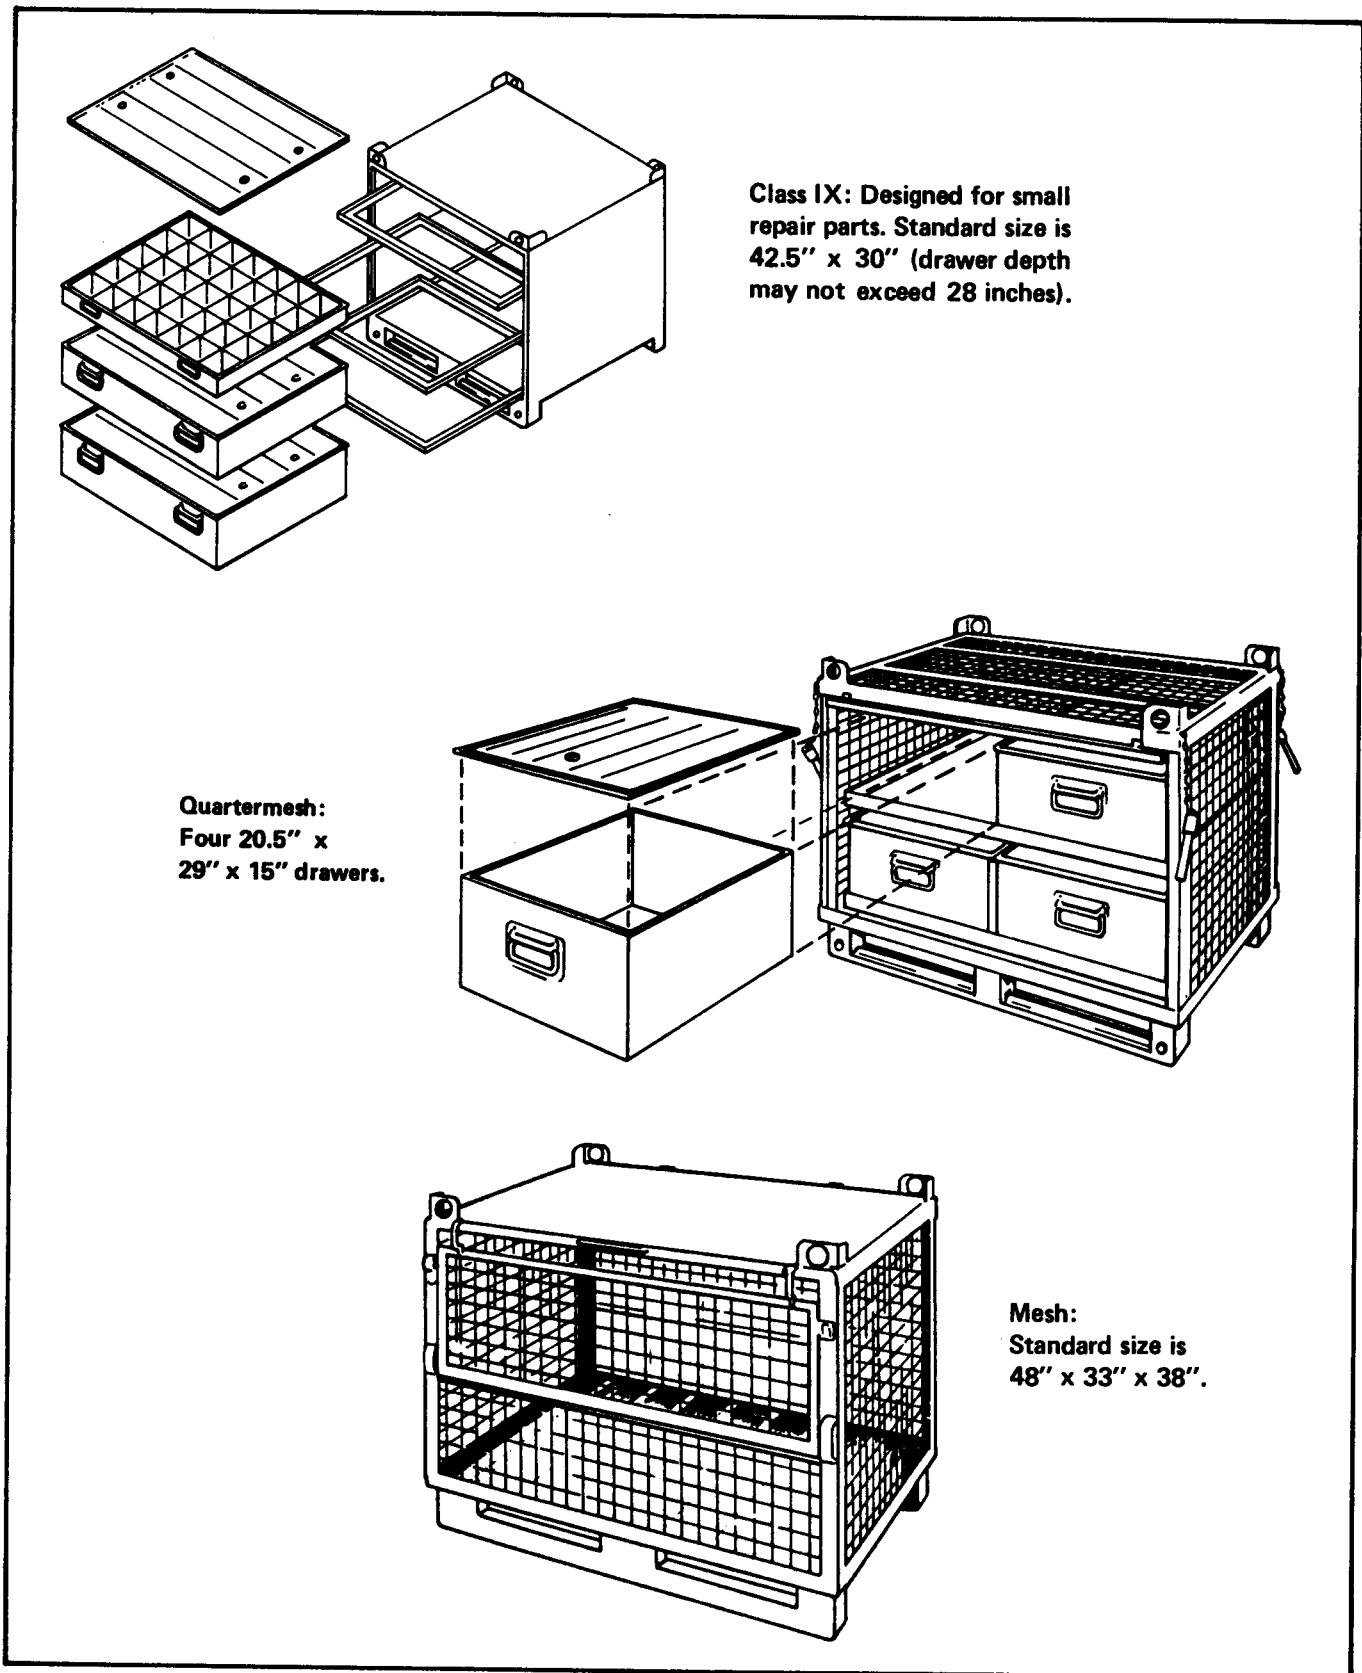

Figure 12-5. Types of FLEX pallets
- Select a storage aid that will make the best use of the M871 storage capacity. This example uses FLEX pallets which can be used for both bin and bulk storage. The standard FLEX pallet is 48 inches long, 33 inches wide, and 38 inches high. Figure 12-5 shows the types of FLEX pallets. The unit cube requirements of the ASL can often assist in the selection of the proper storage aid. Each
type of FLEX pallet can support different types of line items depending on the unit cube of the ASL items, Table 12-2 shows the unit cube and average line capacities for each FLEX pallet shown in Figure 12-5. To determine the cubic feet available in the storage aid, follow the steps below.